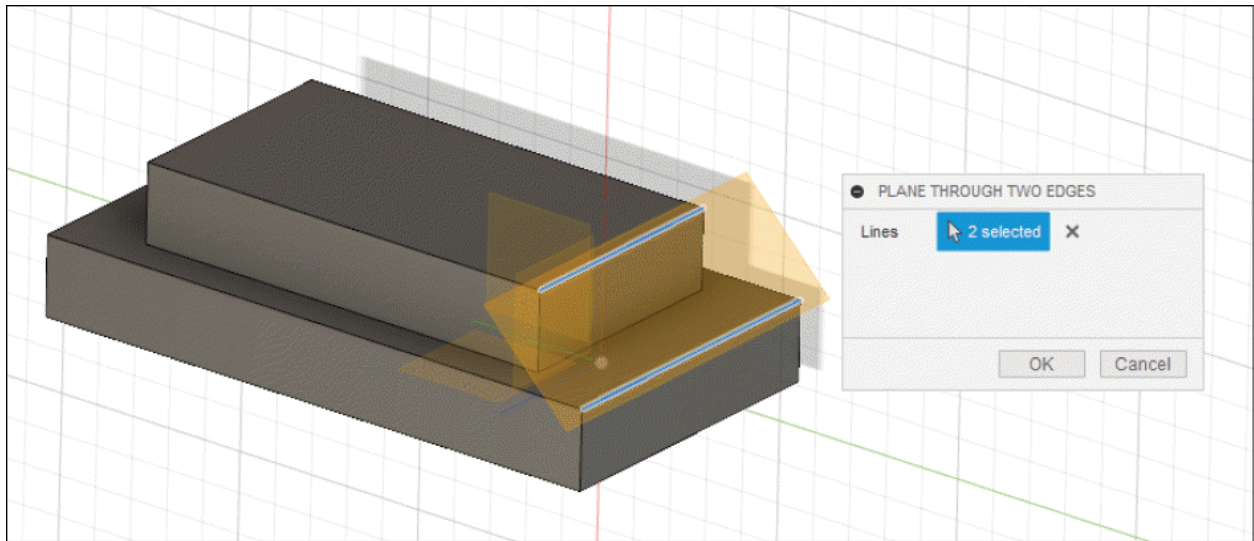

Figure-88. Preview of plane through two edges
- On selecting the second edge, the preview of plane will be displayed; refer to Figure-88.